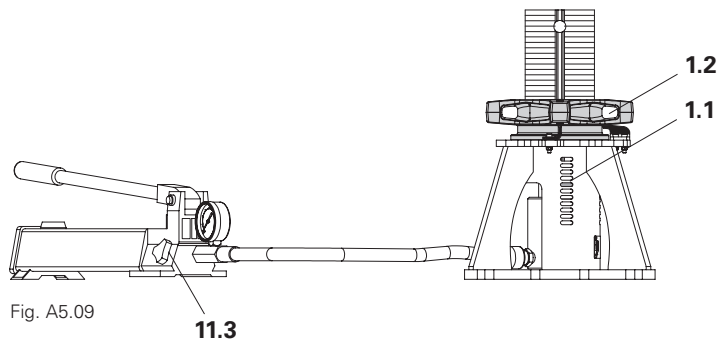

Fig. A5.09
5. If the red pressure piece (1.1) of the spindle tube appears in the next slot, close the pump valve. (Fig. A5.09)